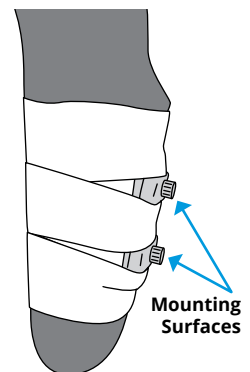

Figure 2
15. To perform a test fitting, wrap rigid, fiberglass casting tape through the grooves of the mounting plate being sure not to cover the two mounting surfaces (Figure 2).